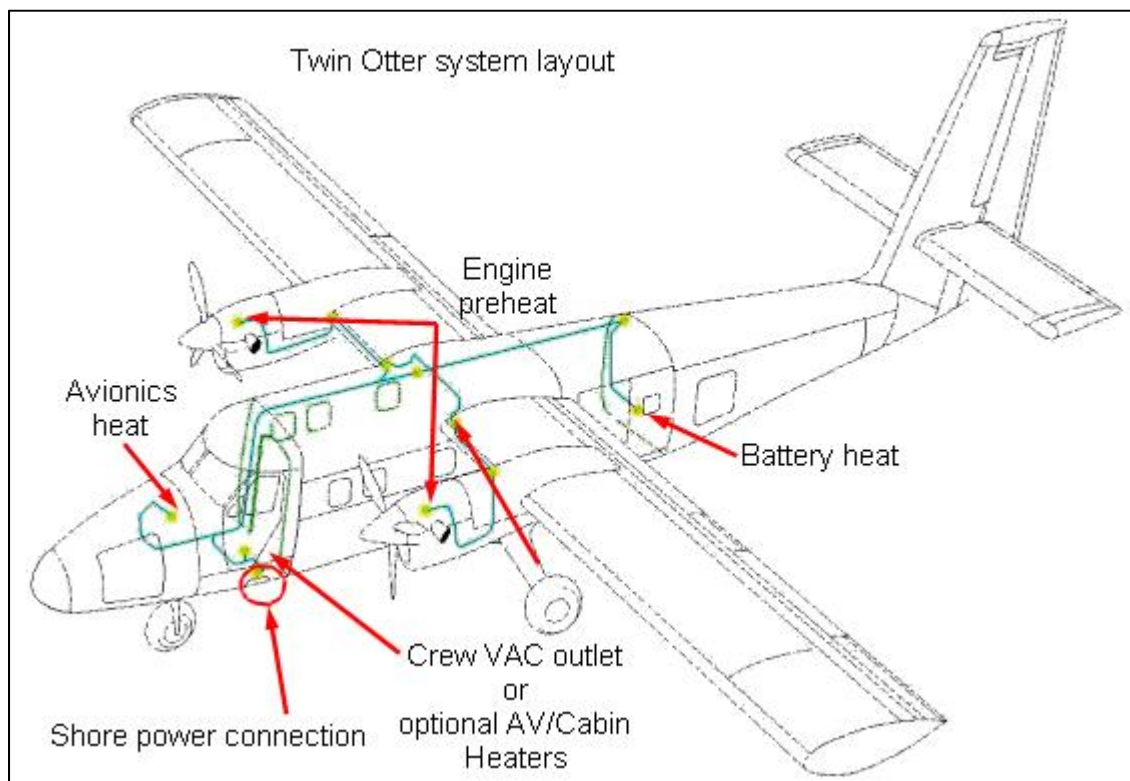

Figure 1. Overview of preheat and external shore power connection locations.
Note: Element positioning, location, and/or lead orientation, may vary from narratives and figures, refer to § 4, Table 1, Figures 1 through 9.
Electrical system routing is suggested. Final routing is determined by installer and may vary from examples due to existing equipment, and/or operating requirements, refer to narrative below and § 4 Figures 1 through 25.
Note: Plug door kit not supplied with preheat kit, chosen by the operator based on individual operating requirements, for options refer to § 4. Figures 1 through 5.
1. Shore power plug (inlet): Install one of the above door kits and locate supplied plugs (inlets) refer to instruction TN02070 and § 4. Figures 1 through 5.
Figure 2. Available door kits TD02959, TD03152, and C6G1511-1. Location for the modification is below left forward crew door in an existing nonstructural (not primary structure) hydraulic bay access door/panel approximate STA 98, refer to Figure 1.